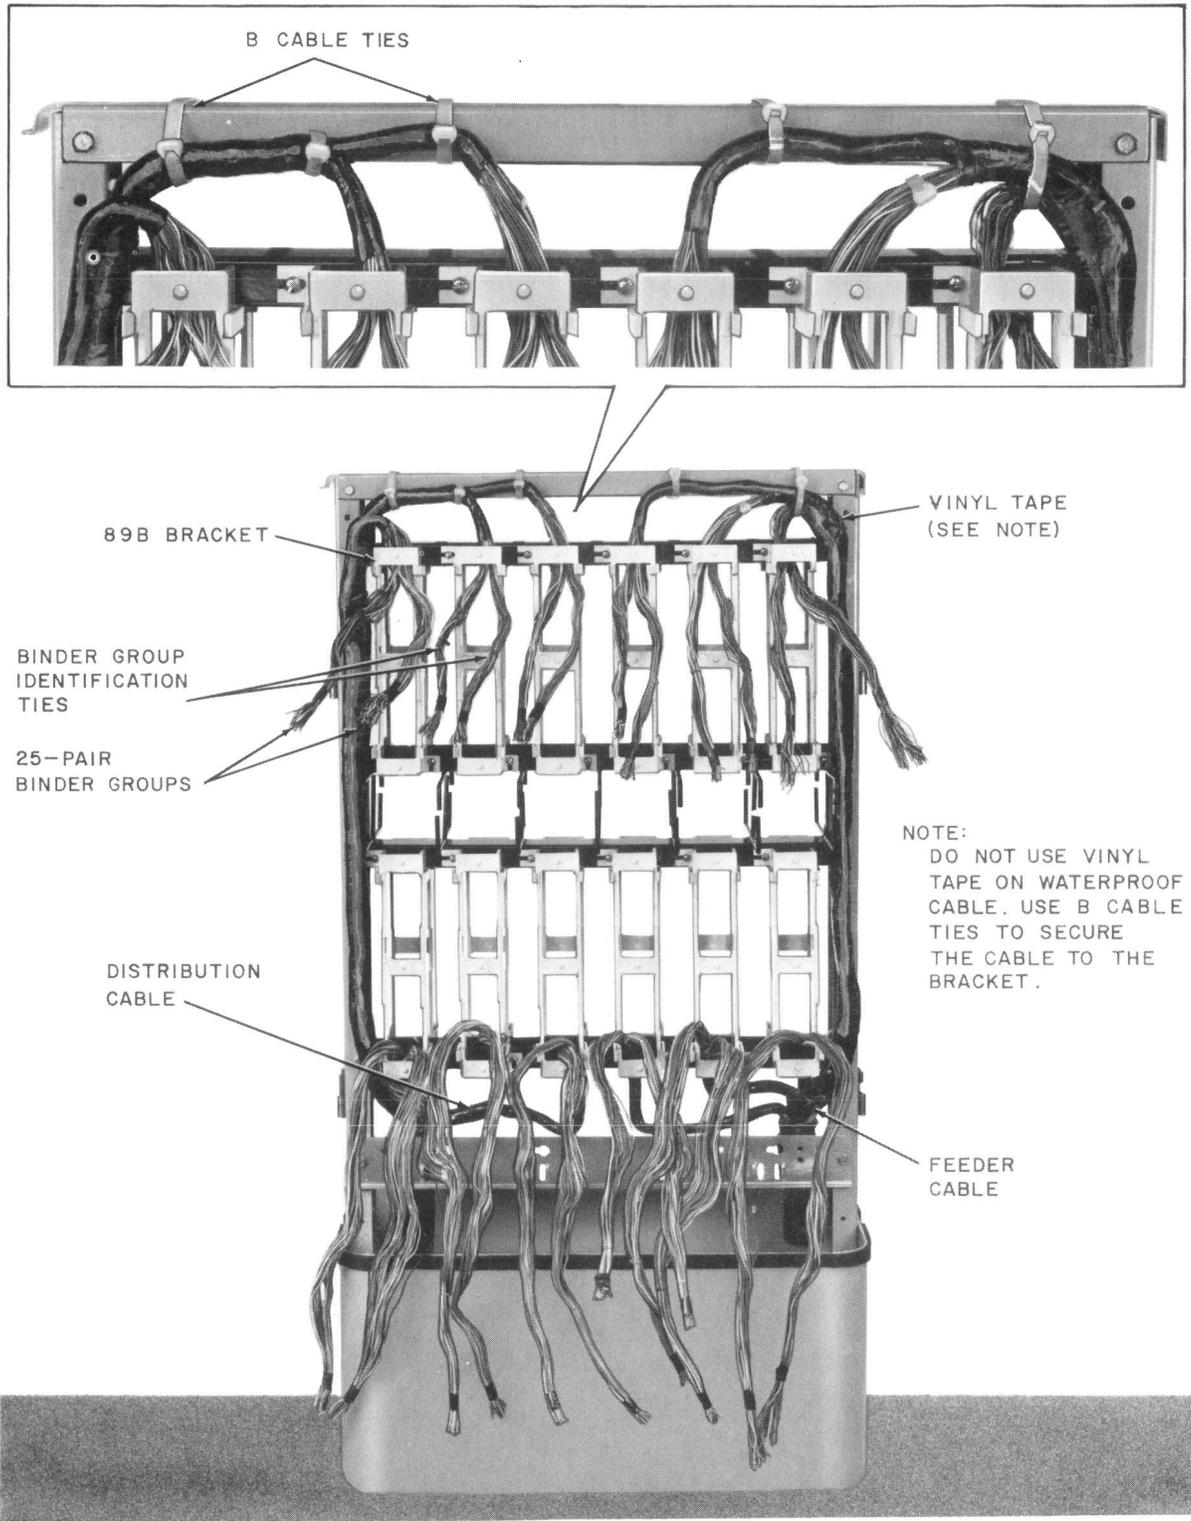

Fig. 19—Feeder Cable Placed (UP-1254)
- (1) Using vinyl tape, tape the air core cable from the butt to the top cross-member of the closure. (See Note in Fig. 19 for securing waterproof cable.)
- (2) Using the machine screws provided, place the 89B brackets in the closure.
- (3) Form the cable core under the bottom cross-member and up the side of the closure. Secure the core to the bottom cross-member with C lashed cable support.
- (4) Form the cable across the top cross-member. Distribute each 50 pairs in the proper 89B bracket. Secure the cable core to the top cross-member with C lashed cable support.
- (5) Remove the unit binders and place binder group identification ties above each 89B bracket.
- (6) Figure 19 illustrates the cable placed in the closure.
- (1) Form the cable core under the bottom cross-member.
- (2) Distribute each 50 pairs in the proper 89B bracket.
- (3) Remove the unit binders and place binder group identification ties below each 89B bracket.
- (4) Secure the cable core to the bottom cross-member in the closure.
- (5) Figure 19 illustrates the cable placed in the closure.